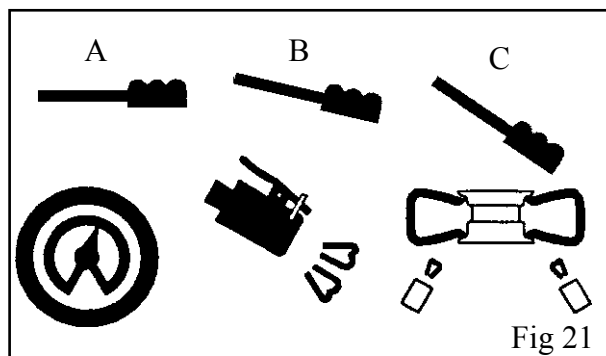

Fig 21
- Release the tyre; set the pedal in the intermediate position (B - Fig. 21) and continue to inflate the tyre with short jets of air and constantly checking the pressure between air jets until the required pressure has been reached.